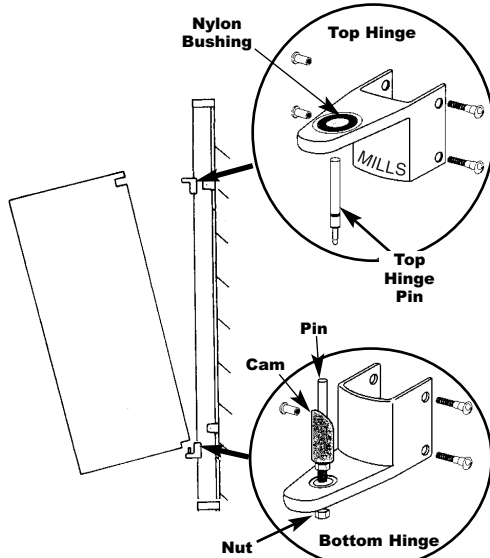

FIGURE 7
- B. Install pin thru cam to bottom hinge as shown in figure 7.